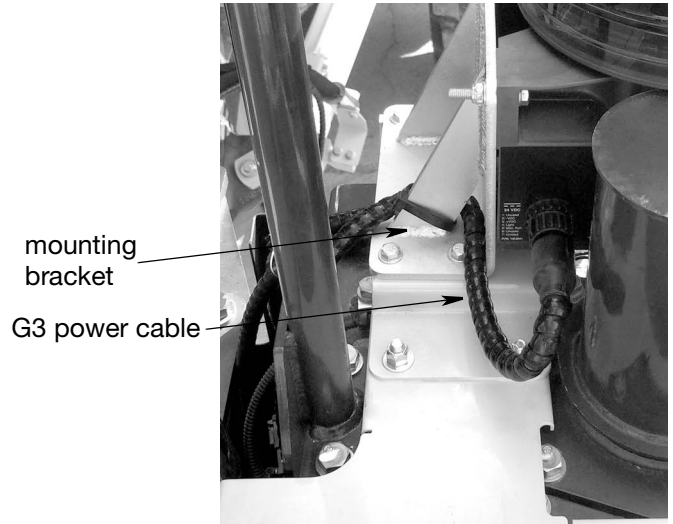

FIG. 37: PC210-11/PC240-11/PC290-11 Models
4. Route the power cable through the mounting bracket and into the engine compartment as shown in FIG. 37 and FIG. 40.